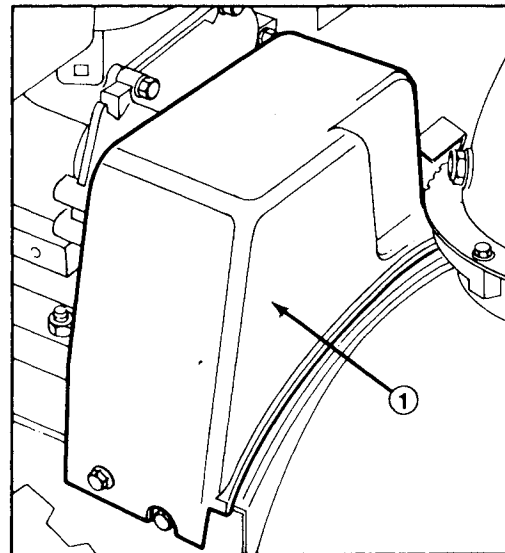

Figure 24
2. Remove two thread forming screws holding belt cover in place, and set belt cover aside (Fig. 24).
3. Remove auger drive belt from engine pulley and large auger/impeller pulley (Fig. 24).